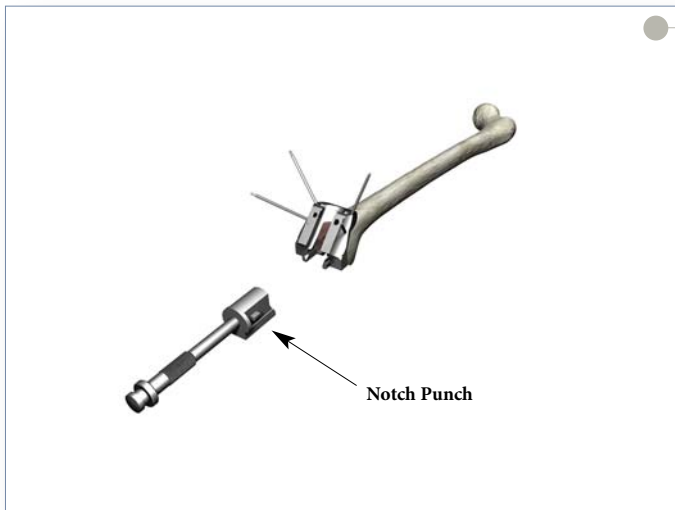

Figure 24
- ▶ Assemble the appropriately sized Notch Compactor to the punch handle (Figure 24).